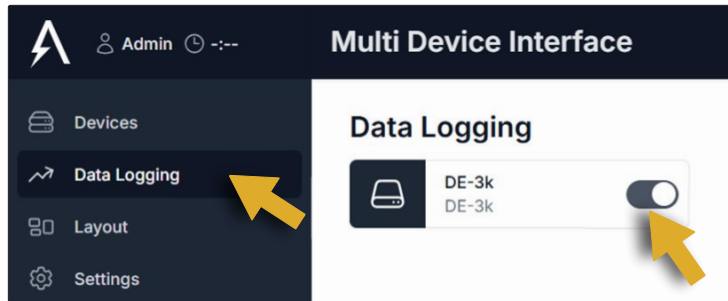

Figure 48
1. In the MDI Configuration menu, click the **Data Logging** button in the navigation sidebar to open the Data Logging screen. See *Figure 48*.